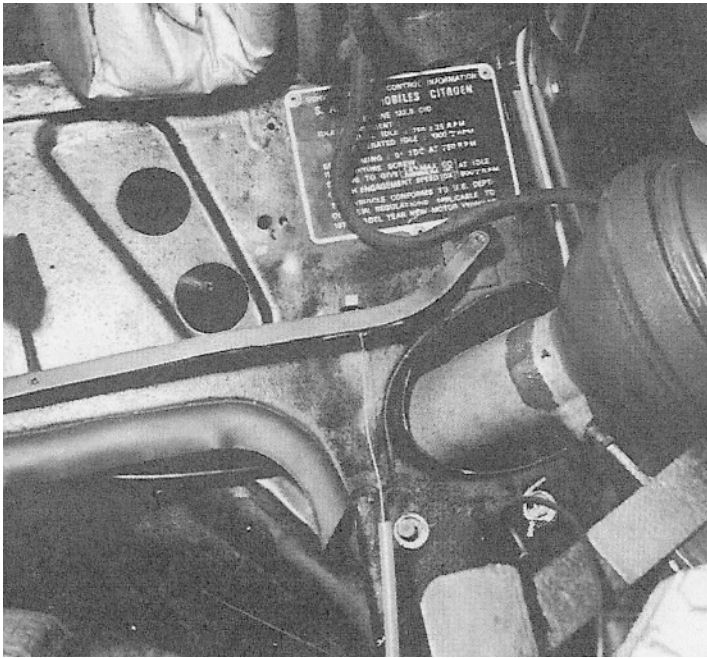

FIG 1
3. Remove spare tire. Remove (2) bolts at each end of radiator air intake housing support bracket and (2) sheet metal screws attached to intake housing.
4. Remove and retain (6) sheet metal screws holding fabric connector to radiator shroud. Remove air intake housing.
5. See FIG. 1 mark centers and drill (2) holes 1-3/5" dia. with hole - insert grommets.
1. Referring to FIG: 1. connect the #8 condenser hose to the discharge fitting on the compressor. Connect the #6 condenser hose to the IN side of the drier. To the OUT side of the drier connect the #6 hose from the evaporator. Finally connect #10 hose from the evaporator to the Suction fitting of compressor (Use refrigeration oil and back-up wrenches on all fittings).